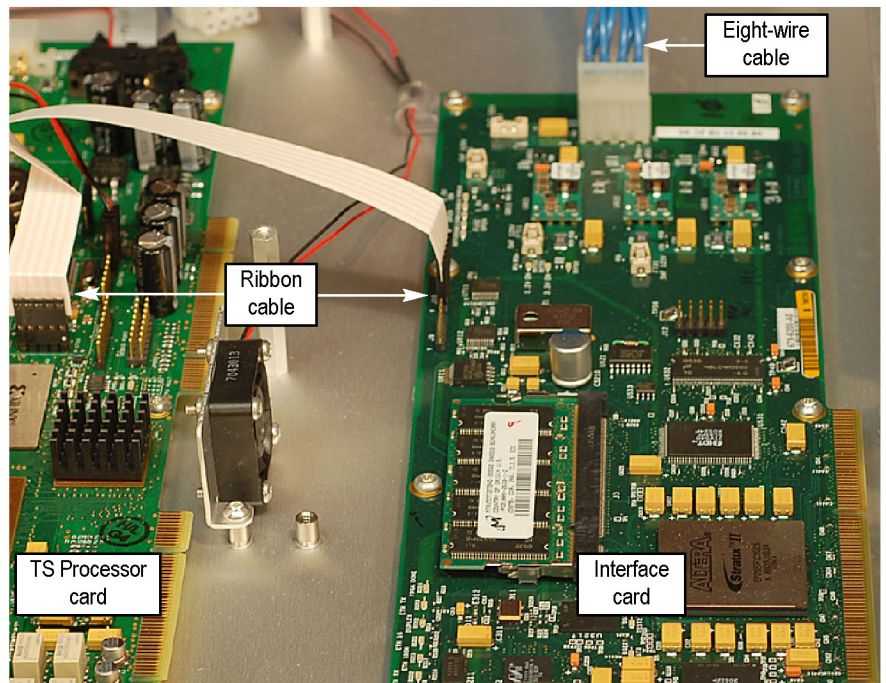

Figure 42: Cable connections for GbE interface card
- Connect the ribbon cable from the connector labeled J10 on the interface card to the connector labeled J750 on the TS Processor card. (See Figure 42.)